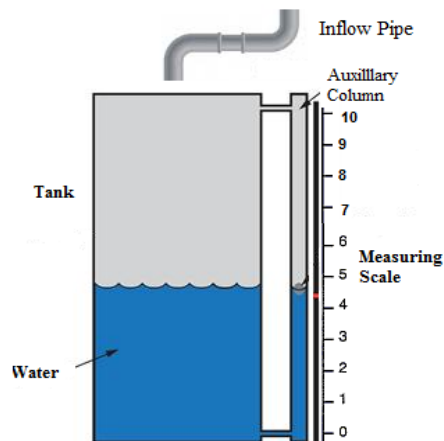

Figure 4: Measuring Tank for discharge Measurement.
3. Collect the flow of water in the measuring tank similar to tank as shown in the figure 4.